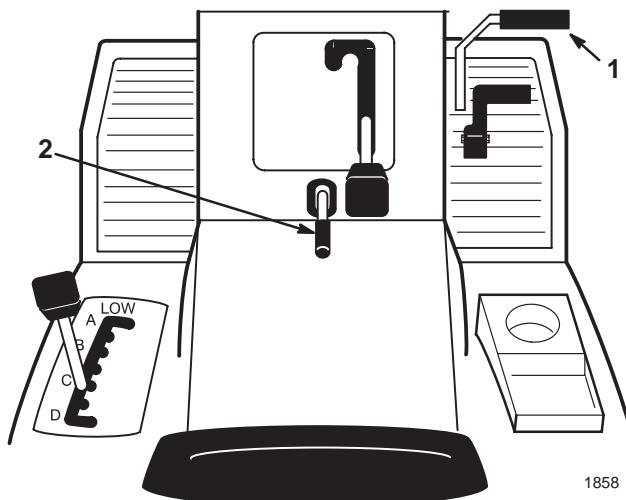

Figure 3
1. Push the brake pedal (Fig. 3) down and hold it in the depressed position.
2. Lift the parking brake lever (Fig. 3) up and gradually take your foot off of the brake pedal. The brake pedal should stay in the depressed (locked) position.
1. Push down on the brake pedal (Fig. 3). The parking brake lever should release.